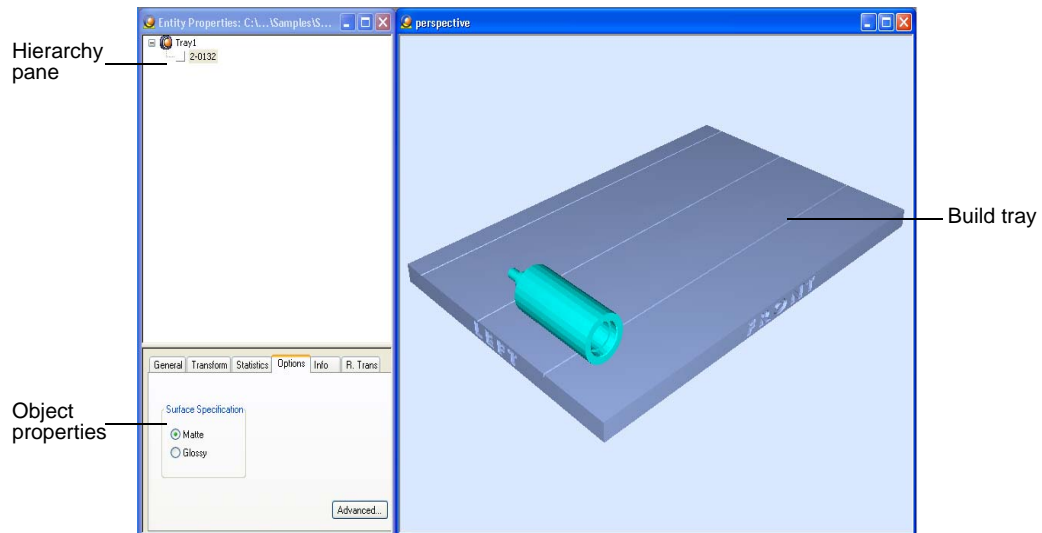

Figure 5-5: Default screen layout
The default screen layout displays the *perspective* view of the build tray and the tray hierarchy pane, which lists the elements placed on the tray (see figure 5-5 on page 4). You can view models from different angles by changing the screen layout.
- ❑ **2 Views** is the default screen layout, already displayed (see figure 5-5 on page 4).